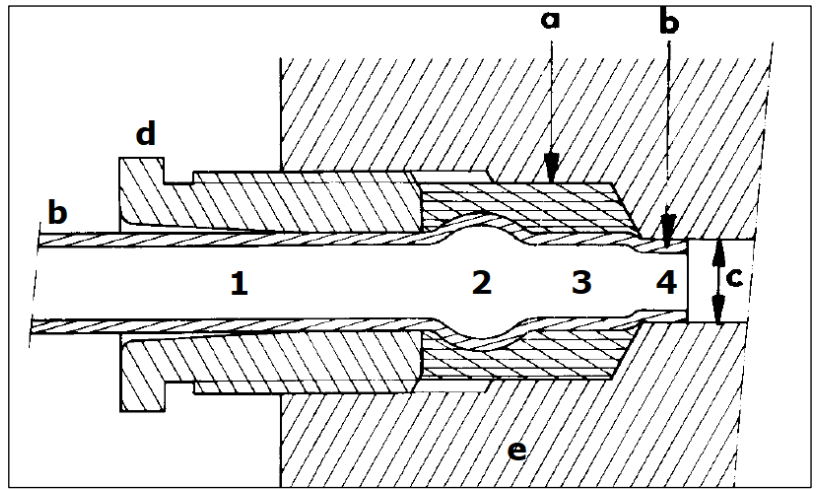
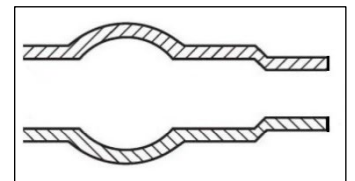
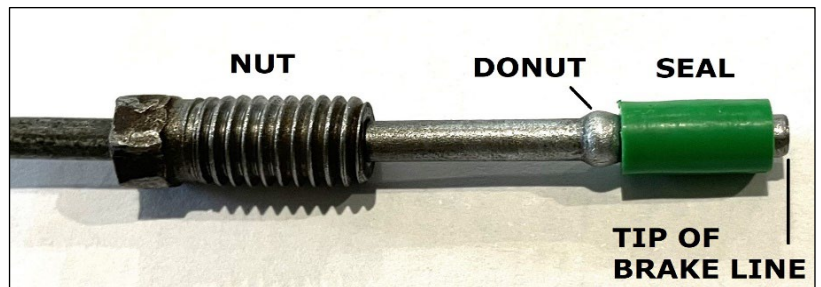
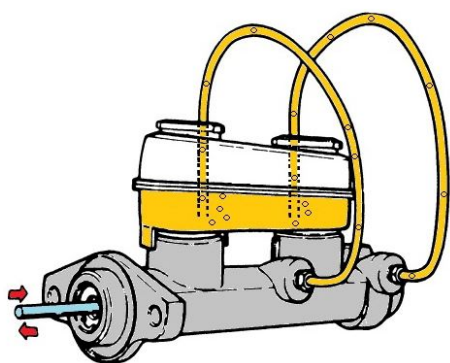

Fig. 2-6
Fig. 2-7
Fig. 2-8
Fig. 2-16 Bench bleeding arrangement
Fig. 2-6 shows the rubber brake line seal 'a', the metal brake line 'b', the fluid opening 'c', the nut 'd' and the fixture 'e'. The brake line diameters at 1 and 3 are identical. The tip of the brake line at 4 is slightly smaller in diameter than at 3, and the brake line shoulder, situated between the diameters '3' and '4', rests against the fixture at the entrance to the opening 'c'. The expanded section at 2 is known as a 'donut' and pushes the seal 'a' against the fixture 'e'. Fig. 2-7 is an enlargement of the end section of the brake line shown in Fig. 2-6. Fig. 2-8 shows a brake line end with a seal fitted, ready to be inserted.
- Fit the seal onto the end of the brake line to a position where about 1 mm of the tip of the brake line is exposed as shown in Fig. 2-8.
- Gently insert the brake line and seal into the fixture, ensuring the tip 'b' enters the opening 'c'. You may feel the tip drop into the opening as you slightly move the brake line sideways while pushing it in. Continue gently pushing the brake line in by hand to where it will not enter any further. At this point, the brake line shoulder between diameters 3 and 4 should be contacting the entrance to opening 'c', as depicted in Fig. 2-6, and the seal is positioned correctly.
d. Construct the arrangement portrayed in Fig. 2-16, adapting as necessary. The writer used the cut-off end sections and nuts from two old brake line sections (cut to about 75 mm in length, per Fig. 2-8) to connect to the fluid outlet ports.
- g. Using the wooden dowel, **slowly** push and **slowly** release the piston inside the open end of the master cylinder (the "pushing" end). In Fig. 2-16, the pushing end is on the left, with the wooden dowel is coloured blue. Ensure the dowel is gently pushed in until slight resistance is felt at the end of its travel. Don't push it any further than that. You will observe brake fluid and air being expelled from the master cylinder fluid outlet ports and back into the reservoir through the clear tubes.